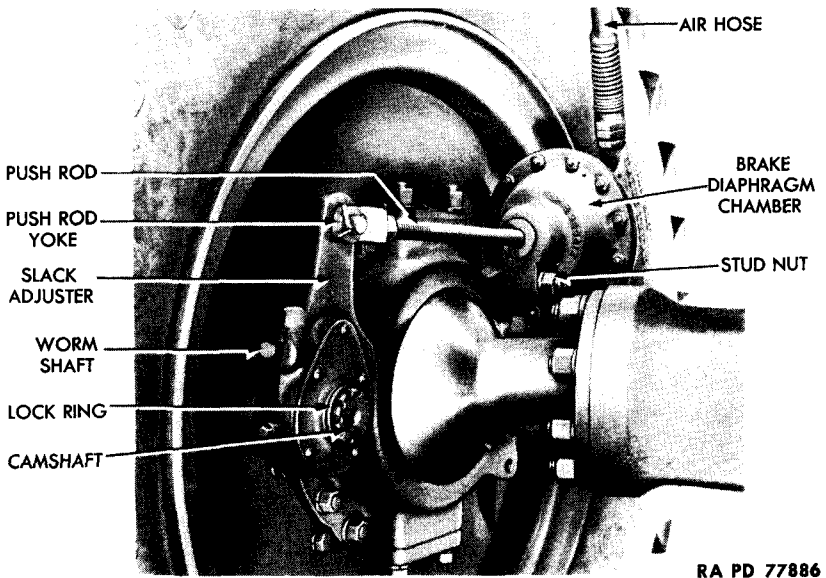

Figure 70 – Front Brake Diaphragm Chamber and Slack Adjuster Installed
(1) **DESCRIPTION** (figs. 70 and 74). One brake diaphragm is attached to vehicle adjacent to each of the four wheels. Diaphragms convert air pressure to mechanical motion in applying brakes. Depressing the brake pedal admits air pressure to each diaphragm chamber, and pressure causes diaphragm motion which is transmitted to brake cam by means of a push rod and slack adjuster. When brake pedal is released, pressure is exhausted from the chamber, and brakes are then released by a spring which returns slack adjuster, push rod, and diaphragm to their original position.
(1) DISCONNECT SLACK ADJUSTER (figs. 70 and 74). Remove cotter pin and clevis pin which connect slack adjuster to push rod yoke.
(2) DISCONNECT AIR HOSE (figs. 70 and 74). Screw hose nut from fitting on chamber.
(3) DETACH CHAMBER (figs. 70 and 74). Remove stud nut and lock washer which secures chamber at front wheel brake, or remove the four nuts, lock washers, and bolts which secure chamber at rear wheel brake. Lift chamber from vehicle.
(1) ATTACH CHAMBER (figs. 70 and 74). Position chamber on backing plate or on bracket. Install stud nut which secures chamber at front wheel brake, or the four bolts, lock washers, and nuts which secure chamber at rear wheel brake.
(2) CONNECT AIR HOSE (figs. 70 and 74). Screw air hose to fitting on chamber.
(3) CONNECT SLACK ADJUSTER (figs. 70 and 74). Position slack adjuster to push rod yoke, and secure with the clevis pin and cotter pin.
(4) TEST INSTALLATION. Start engine, and build up pressure to 105 pounds. Test operation of brakes, and inspect chamber hose connection for leaks while brakes are in operation.
(1) **DESCRIPTION** (figs. 70 and 74). One slack adjuster fits on the spline on the shaft of each brake cam. These are special levers which connect the brake diaphragm chamber push rods to the brake camshafts.
(5) **ADJUST BRAKES AND RECORD PUSH ROD TRAVEL (FIRST ADJUSTMENT ONLY)** (figs. 70 and 74). Jack up each wheel, and turn slack adjuster worm shaft until brake shoes are tight against drum. Back off worm shaft until wheel is free, and insert feeler gage between toe-end of shoe and drum. Turn worm shaft until 0.008- to 0.010-inch clearance is obtained; then apply brakes, and measure brake diaphragm push rod travel. Record measurement for future use in checking (step (2) above) and adjusting (step (6) below) brakes. **NOTE:** *If adjustment is correct, push rod travel will be same for both wheels on an axle. Dimensions will be about $\frac{5}{8}$ inch on front brakes and about $\frac{7}{8}$ inch on rear brakes.*
(6) **ADJUST BRAKES (ALL SUBSEQUENT ADJUSTMENTS)** (figs. 70 and 74). Turn slack adjuster worm shaft until brake diaphragm cham-
c. Removal (figs. 70 and 74). Use a pointed instrument to mark relative positions of slack adjuster and camshaft. Remove cotter pin and clevis pin which secure push rod to slack adjuster. On front slack adjuster, pry lock ring from brake camshaft. On rear slack adjuster, remove attaching screw and special lock washer. Tap adjuster from shaft.
d. Installation (figs. 70 and 74). Position slack adjuster on protruding end of brake camshaft as originally installed, and note marks made before removal. On front of slack adjuster, pry lock ring into position at end of shaft. On rear slack adjuster, install special lock washer and attaching screw. Position push rod yoke to slack adjuster, and install clevis pin and cotter pin which attach rod and adjuster.